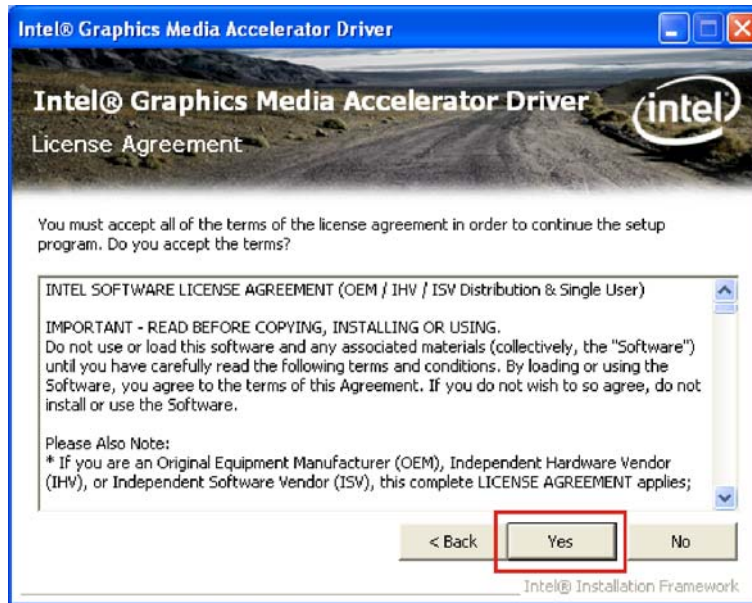

Figure 7-12: VGA Driver License Agreement
Step 27: The license agreement in Figure 7-12 appears.